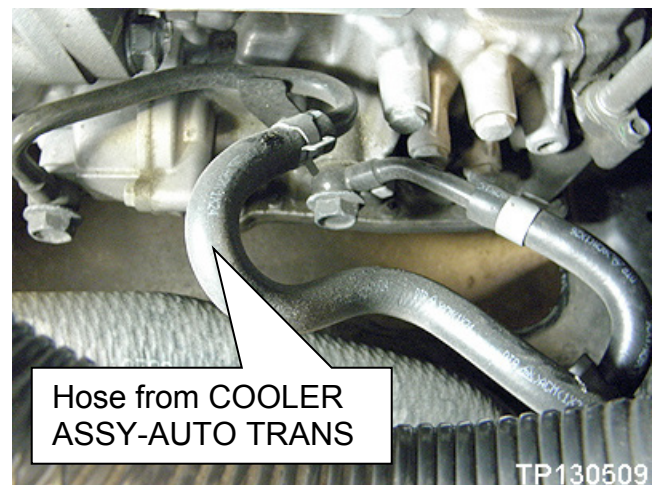

Figure 10
9. Attach the second COOLER ASSY-AUTO TRANS fluid hose to the CVT (Figure 10).